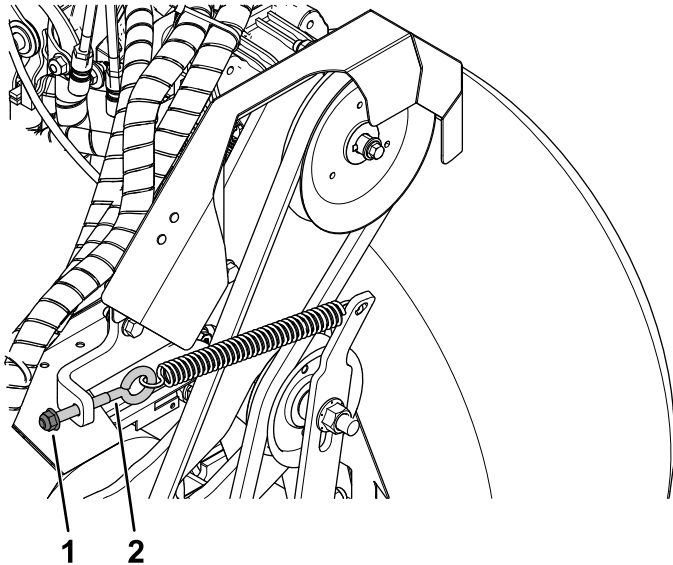

Figure 90
3. While holding the eye bolt in place, loosen the locknut on the eye bolt to remove tension from the spring (Figure 90).